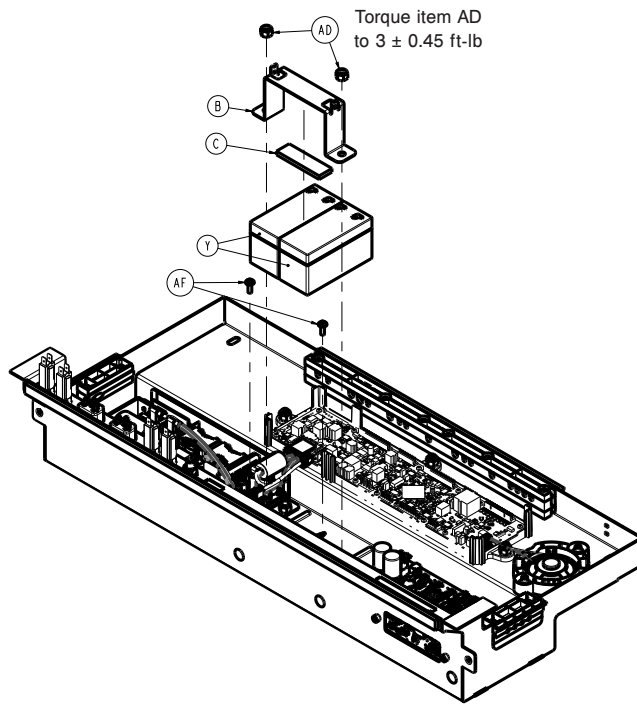

Figure 14 – Replacing the battery
9. Using a ratchet and a 7/16" socket, remove the two nuts (AD) that secure the battery strap (B) to the electronics box assembly (Figure 14). Save the nuts.
8. Using a ratchet and a 7/16" socket, remove the two nuts (AD) that secure the battery strap (B) to the electronics box assembly (Figure 14). Save the nuts.